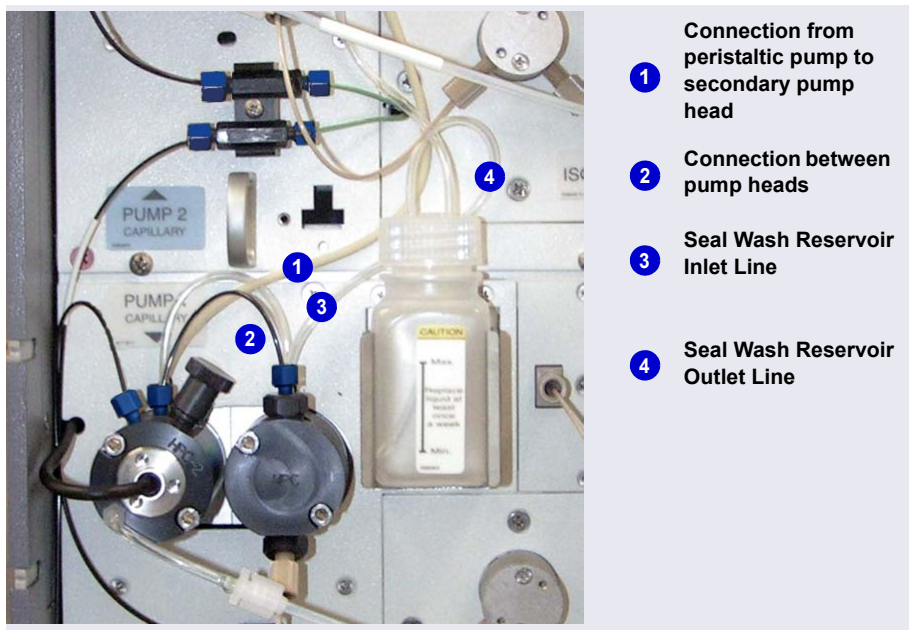

Figure 4-5. Piston Seal Wash Connections to Pump 1
1. Note the tubing connected from the peristaltic pump to the seal wash tube on the secondary pump head on pump 1 (see Figure 4-5, item ①). Disconnect this tubing from the pump head and connect it to the seal wash tube on the secondary pump head on pump 2.
2. Disconnect the short piece of tubing between the primary and secondary pump heads on pump 1 (see Figure 4-5, item ②). Connect this tubing to the pump heads on pump 2.
3. Disconnect the seal wash reservoir inlet line from the primary pump head on pump 1 (see Figure 4-5, item ③). Connect the inlet line to the primary pump head on pump 2.